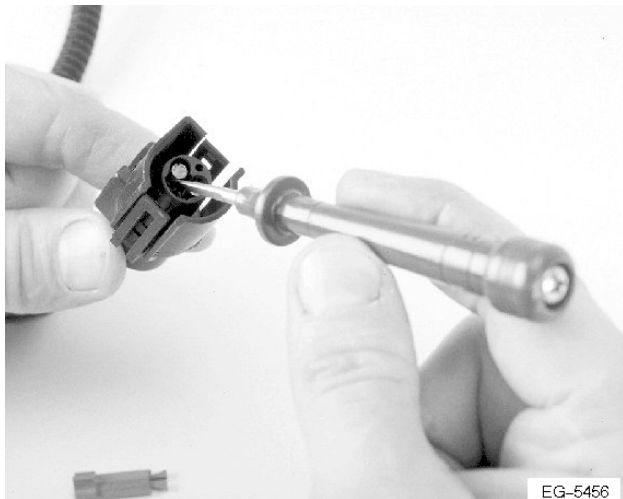

Figure 270 Release Retaining Finger
2. Insert a narrow blade into the connector to lift the retaining finger away from the terminal, (See Figure 270, page 440).